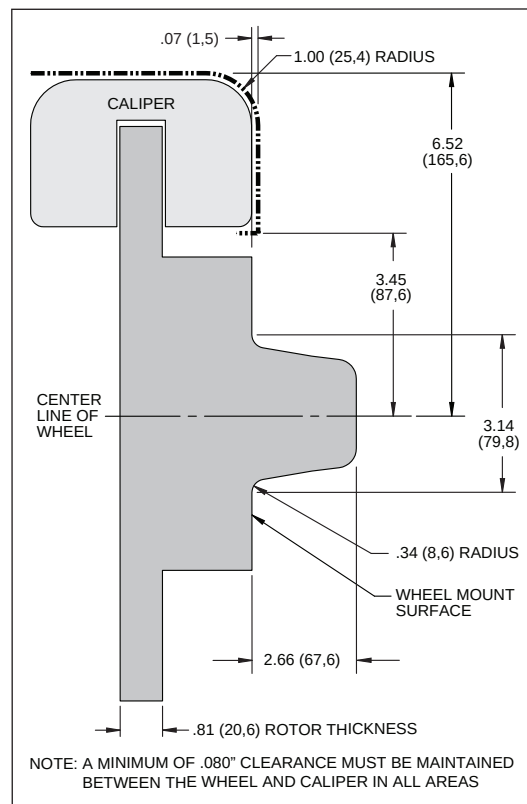

Figure 2. Wheel Clearance Diagram
- Review the Wheel Clearance Diagram (Figure 2, page 3) to verify that there is adequate clearance with the wheels you will be using with the installation.
- Verify your wheel clearance using Figure 2.
- WARNING:** The wheel contact surfaces must seat completely on the face of the hub. If any contact surfaces overhang the outside diameter of the hub face, a 6.60" diameter x .20" thick steel spacer (item 23, Wilwood P/N 300-11961) MUST be used between the wheel and the hub.